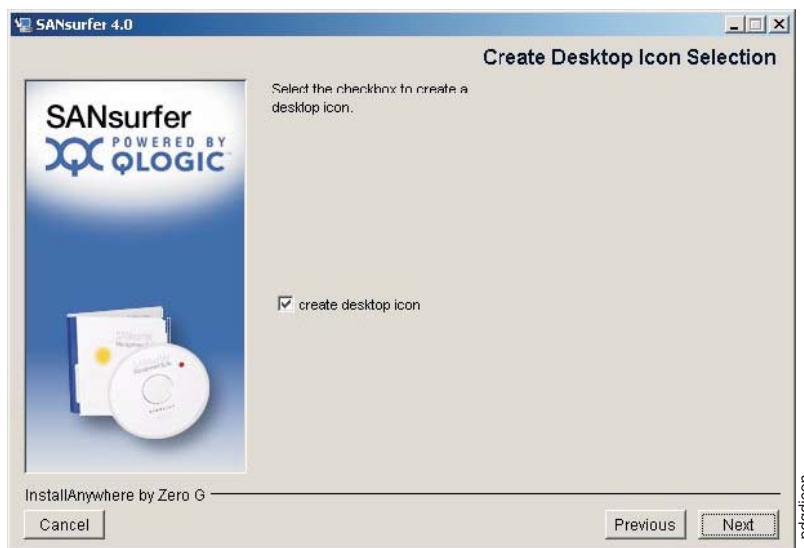

Figure 8. Create Desktop icon Selection window
8. If you are installing the SANsurfer FC HBA Manager GUI on a Windows 2000/Windows Server 2003 system, the Create Desktop Icon Selection window opens as shown in Figure 8.